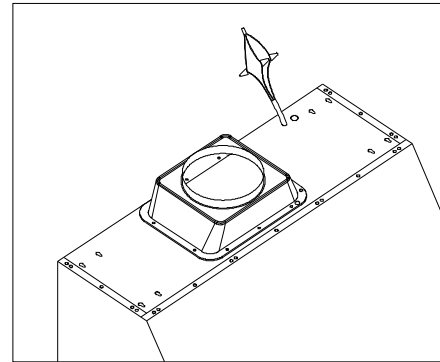

Figure 14
- Connect three wires (black, white and green) to house wires and cap with wire connectors. Connect according to color: black to black, white to white, and green to green as shown in Figure 14.